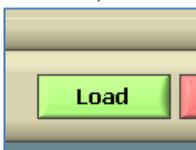

Figure 1.2.8-2: The **Load** Button located on **Manage database Connection** window
3. The **DQCsys Client Setup** window will display the loaded database connection's database path. (Figure 1.2.8-3) Proceed to 1.3 Select Setup Profile & Process to continue the setup configuration.